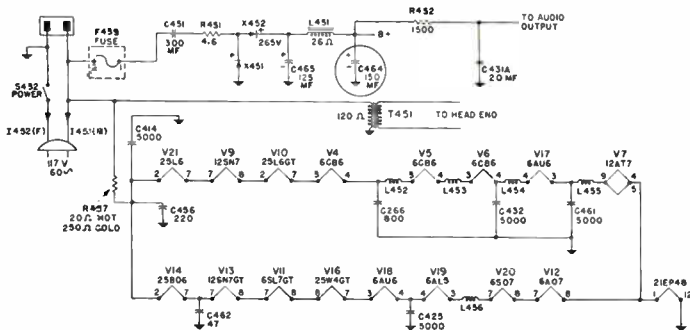
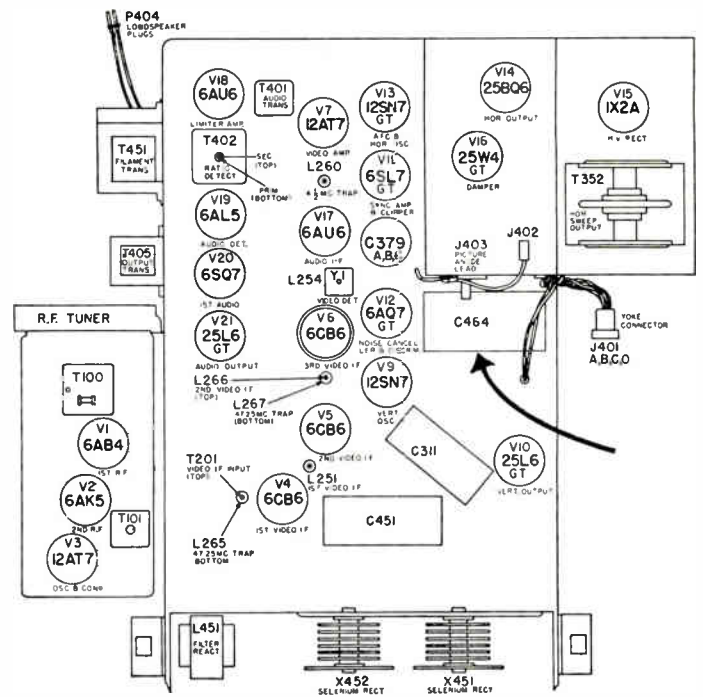

Fig. 1
Fig. 2
No. 73. Audio buzz in series-heater General Electric receivers such as shown in the chassis layout in Fig. 1 may be due to a defective C379B. The physical location of this multiple-unit capacitor is pointed out below. This capacitor, C379B, is connected in the circuit to the B+ which supplies the vertical sweep generator as well as the audio tubes. If this capacitor is defective the vertical pulse is not filtered out and may be heard in the audio.
**TELE-CLUE F-203 and 204**—The vertical striations were caused by a defective C-464 capacitor in a 21T4 type General Electric receiver. The electrical location of this capacitor is shown in Fig. 1 and the physical location in Fig. 2. This capacitor checked OK on a capacitor checker, but it had apparently lost its effectiveness at higher frequencies as indicated in the waveform photographs. The first waveform was taken with the oscilloscope connected to the grid of the picture tube. The second and third waveforms were taken with the oscilloscope connected across a 10-ohm resistor in the B+ side of the horizontal yoke winding. The oscilloscope was synced at one-half the horizontal frequency. The first and second waveforms indicate that spurious frequencies are present in both the video signal and the horizontal sweep current. A new C-464 capacitor removed these spurious frequencies as shown in the third waveform. It was also found that a .25 or .5 mfd 600-volt capacitor connected across the original C-464 or a 1000-ohm resistor in series with the B+ lead to the head end was effective in eliminating the vertical striations. Similar visible striations have been noticed on other General Electric models. These were also due to defective filter capacitors.